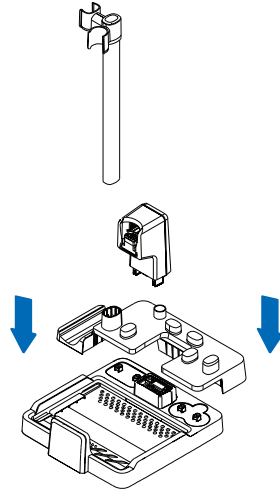

Figure 1
- Attach pet grooming tool to the flexible hose. Connect the hose to handheld vacuum. Reference Figure 1 for proper configuration.
- Align the accessory mount to the charging base and gently press down until the mount is attached to the base. Reference Figure 1 for guidance.